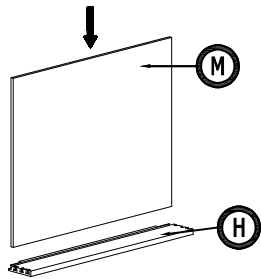

Figure 1
1. Install the drawer bottom into drawer box back, click into place (Figure 1)